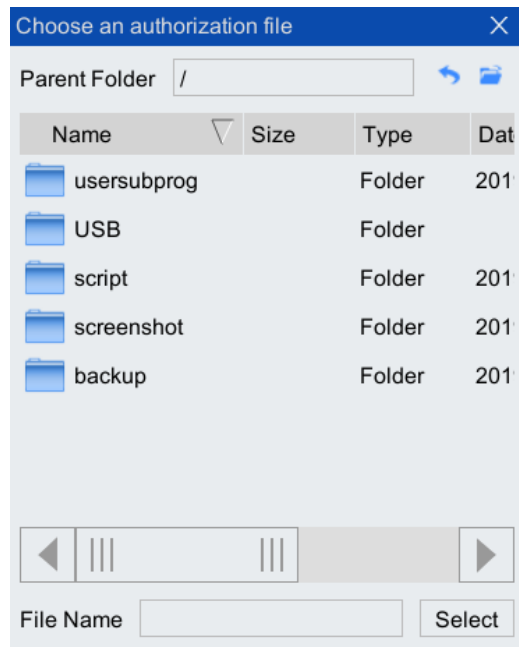

Fig. 3-12 "Select Authorization File" dialog box
- Step 4. Click "Authorization Import" to pop up the "Choose an authorization file" dialog box shown in Fig. 3-12. Find the authorization file under the USB folder and click to highlight it. Click the "Select" button to start authorization.